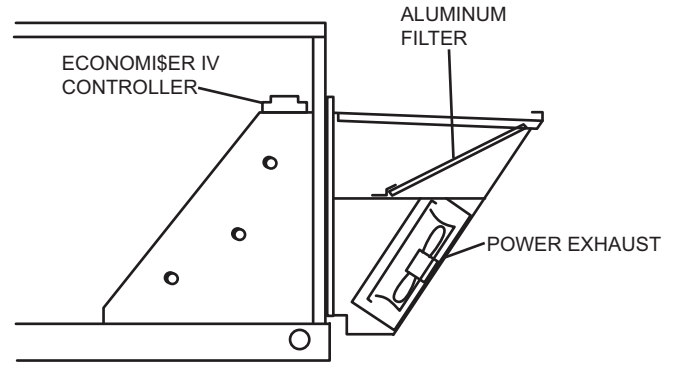

Fig. 12 — Power Exhaust Installed on Unit
4. Lift power exhaust and install over economizer using the #10 x 3/4 in. long screws provided. Make sure wiring harnesses are properly secured. (See Fig. 12.)